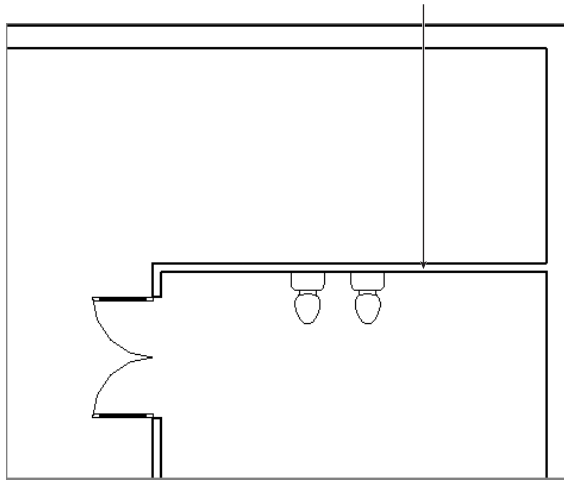

FIGURE 5.9 Placing unhosted components in a model
7. Place two `c05-WC-Unhosted` families along the southern wall of the same room, as shown in Figure 5.9.
11. Delete the wall segment where you placed the components in step 7 (indicated in Figure 5.9). The fixtures remain.